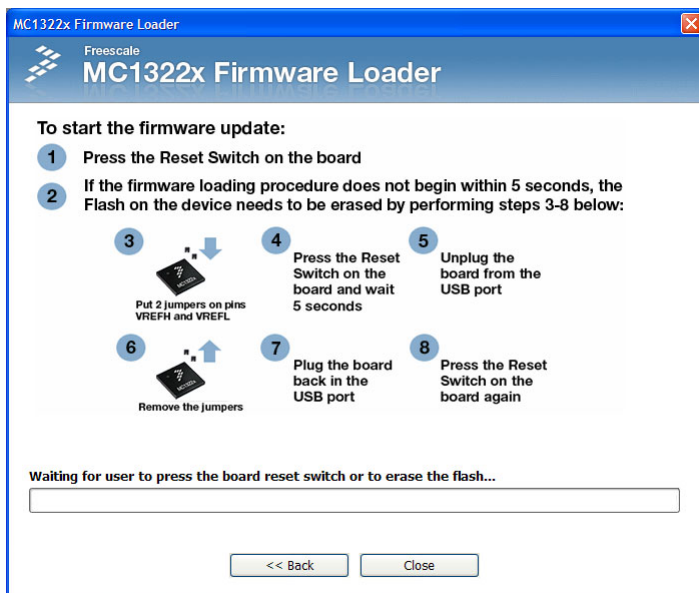

Figure 4. Image Loader (Reset Board Message)
9. Press the Reset switch on the board when indicated by the status message as shown in Figure 4. The message also contains the flash erase procedure details if that has not been yet performed.